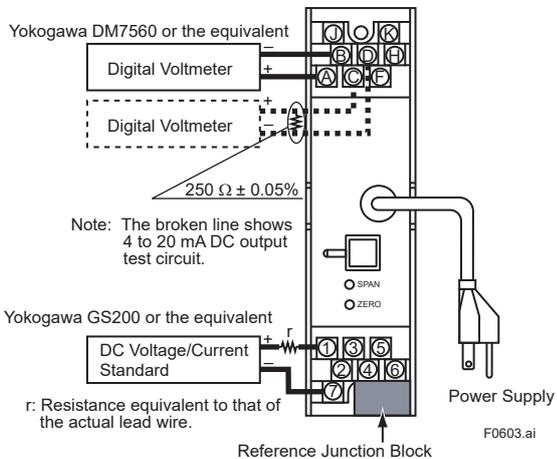

Figure 6-3 Thermocouple Input Converter Adjustment
- Connect the test equipment corresponding to each input referring to Figure 6-1 through Figure 6-3.